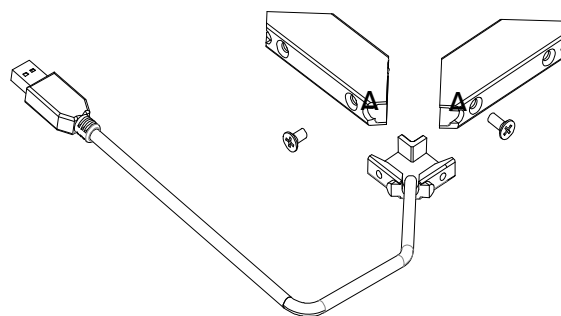

Fig. 4 Installation Diagram of Corner A-A
- 3) Install the angle iron and USB in the corner A-A as shown in Fig. 4.